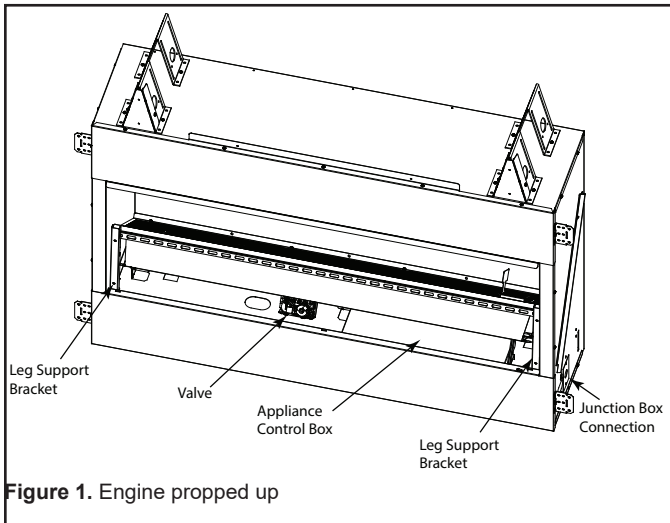

Figure 1. Engine propped up
4. Lift the burner assembly and place the two engine supports, provided under the Engine, against lower front space at the bottom of the face, and slide into the slots at the bottom of the engine assembly. See Figure 1.